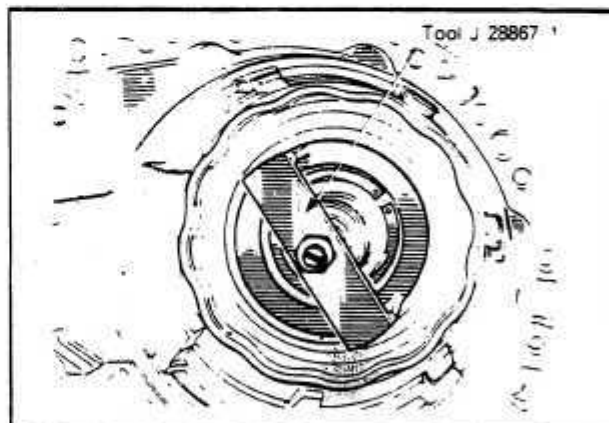

Fig. 48 BRAKE B-1 PISTON REMOVAL
5. Compress the B1 piston return springs with the special tool J 28867/1 (part of the A T Tool Kit) and remove the lock ring securing the spring retaining plate. *Fig. 48*
6. Position the lock ring on top of the hub and install the special spring compressing tool. Compress the springs and install the lock ring. *Fig. 48*